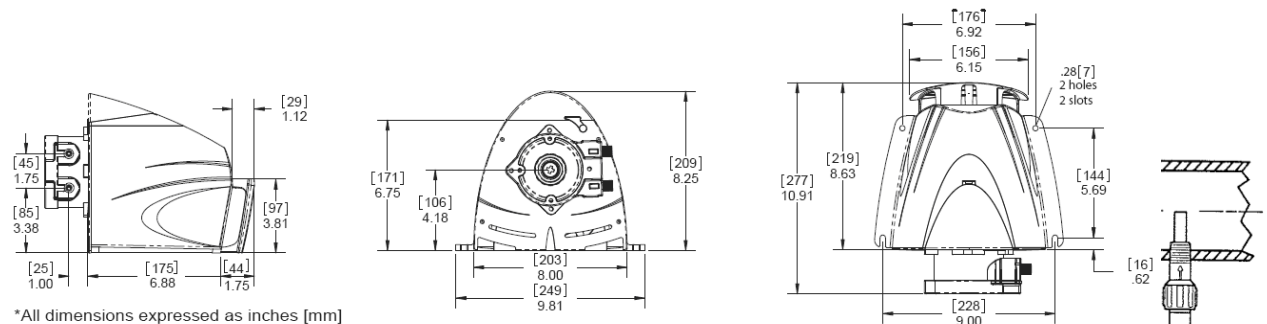
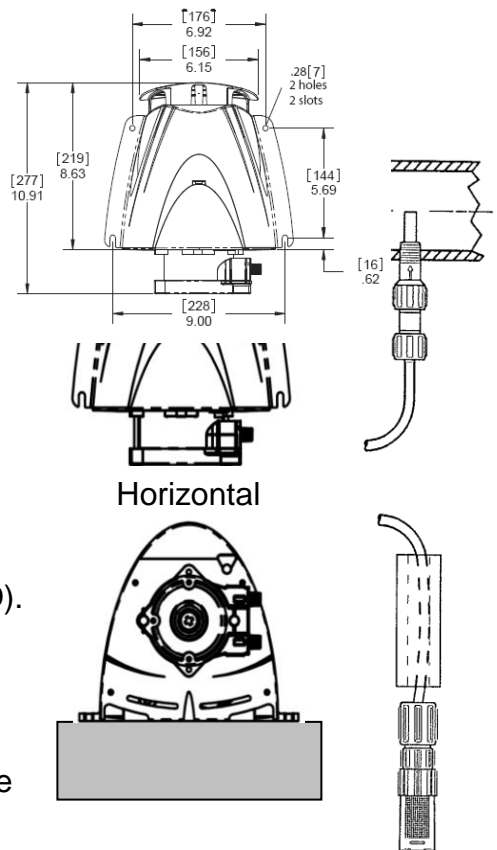

Figure 1: Pump Dimensions
Figure 2: Injector Placement
Figure 1 provides a quick reference for installation dimensional requirements.
1) The pump can be installed either vertically or horizontally (See Figure 2). Make sure to secure the pump on a flat level surface that will support 50-lbs (22kg) and secure with four .25-in (6mm) screws in the holes provided. The guard snaps into the back of the pump via three tangs -- see Figure 1. The pump should be mounted with no less than 1.75-in
3) Relieve the system pressure and drain the piping run where the injection fitting is to be installed. See Figure 2 for reference. **The injection fitting must not be installed in a dead end pipe or a deeply recessed tee. It should be installed so as to place the tip at the center of the fluid stream as indicated in Figure 2.** The injection fitting is supplied with .25-in NPT threads. If necessary drill a .44-in (11mm) diameter hole and using care not to tap too deeply, tap for .25-in NPT.